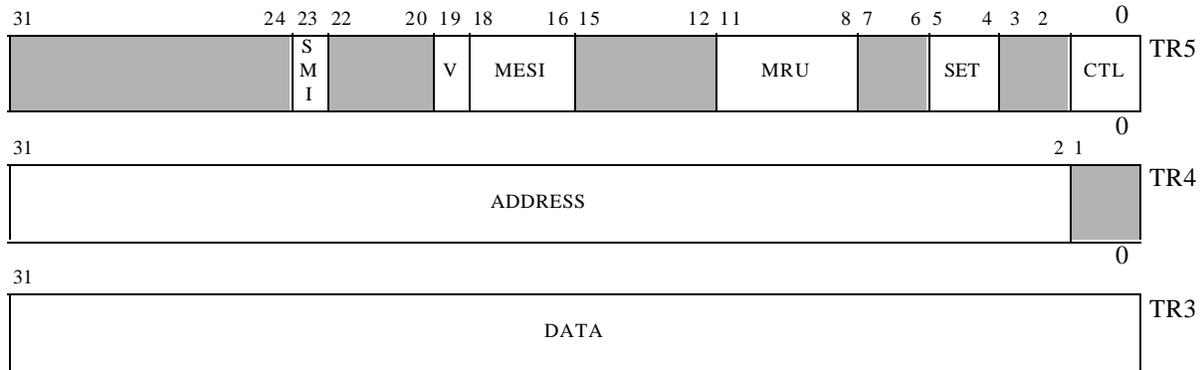

Figure 2-33. Cache Test Registers
**Test Initiation.** A test register operation is initiated by writing to the TR5 register shown in Figure 2-33 (Page 2-87) using a special MOV instruction. The TR5 CTL field, detailed in Table 2-30 (Page 2-87), determines the function to be performed. For cache writes, the registers TR4 and TR3 must be initialized before a write is made to TR5. Eight 4-byte accesses are required to access a complete cache line.